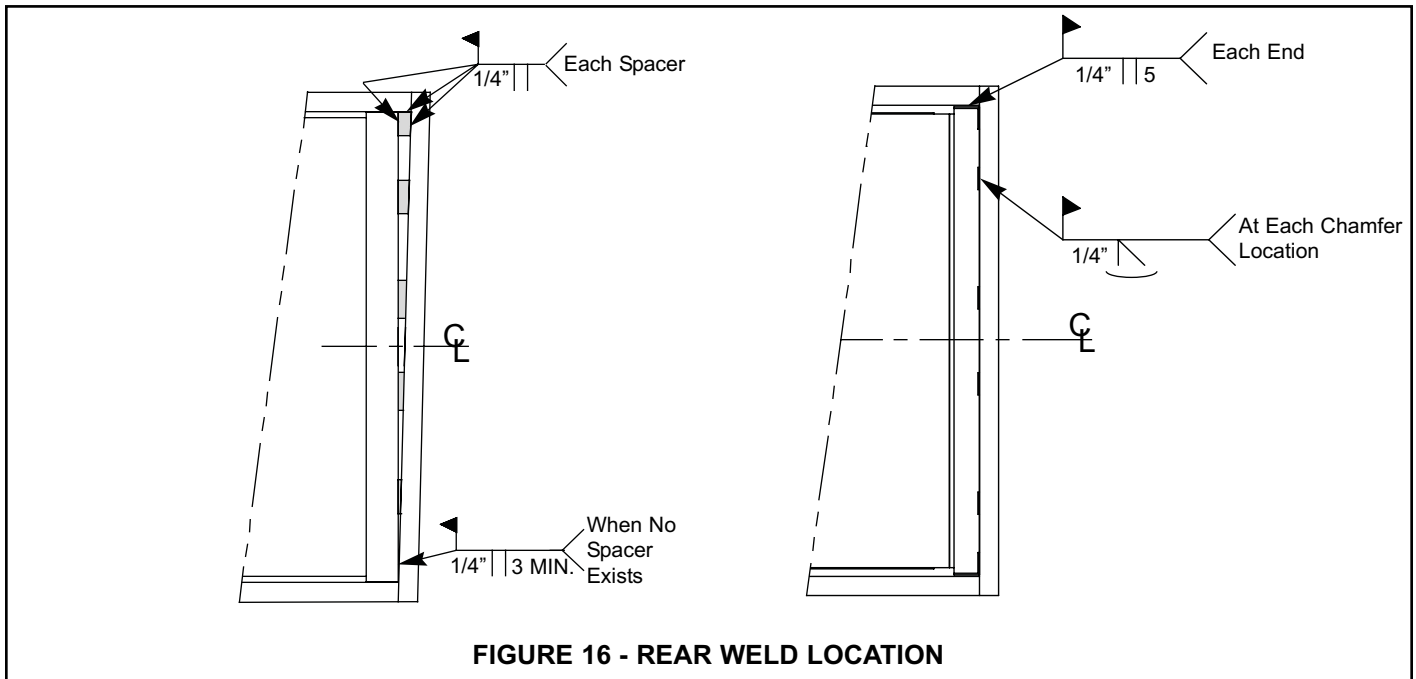

FIGURE 16 - REAR WELD LOCATION
14. Weld rear frame to curb steel at chamfered locations at back edge of rear frame angle. See figure 16.